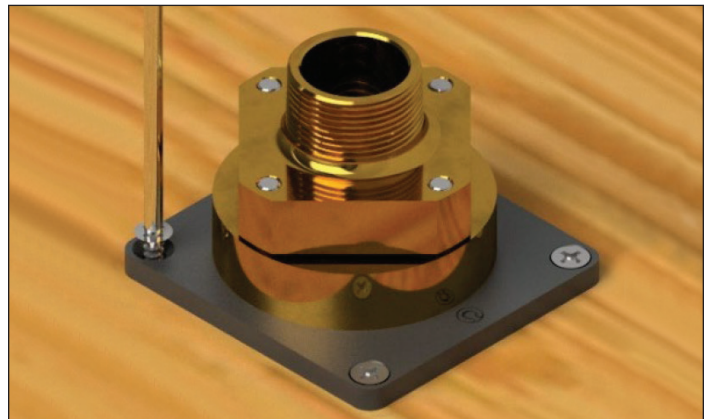

Figure: 1-9
11. Feed the Flange Assembly down through the clearance hole and mount the Rectangular Flange using appropriately sized screws to provide a firm mount (Figure 1-9).